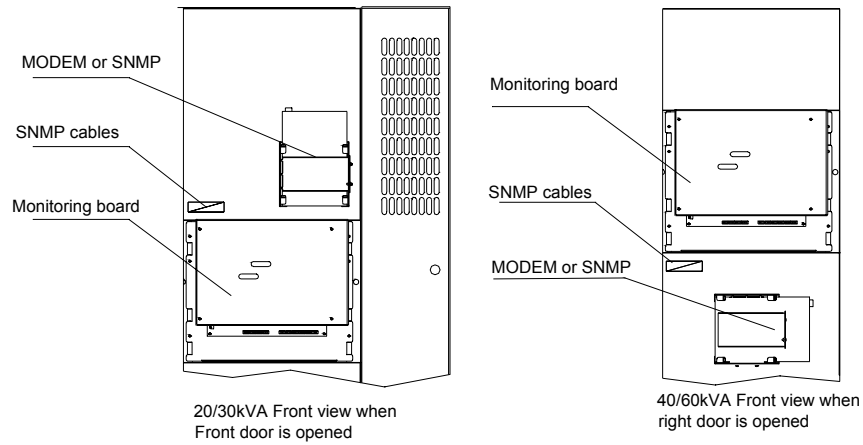

Fig. 3-10 Installation of MODEM or SNMP
1. Figure 3-10 shows the location of Modem and SNMP card. Before installing the modem, the user should remove the iron box use for SNMP card and installed the modem there.
Unpack the SNMP card and place it in the iron case shown in Figure 3-10